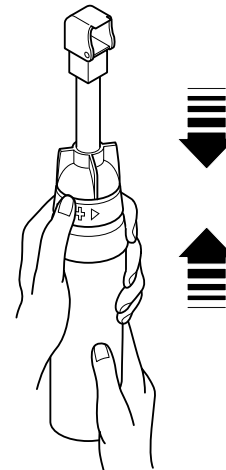

Fig 184.
- c Position the tube hanging down from inside the reflector assembly into the hole at the top of the gas cartridge. Then press the gas cartridge up into the reflector assembly as far as possible until the two elements are clamped firmly together. ⇒ Fig 184. (C-175). A click will be heard.